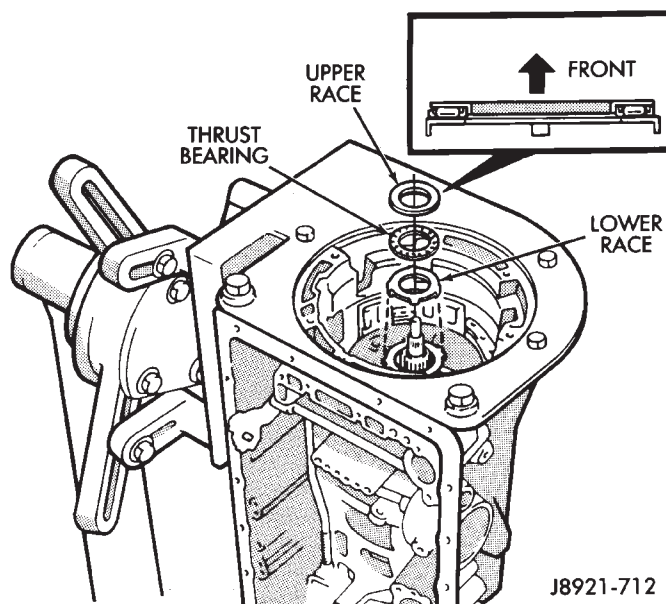

Fig. 45 Installing Overdrive Support Thrust Bearing And Races
(53) Remove dial indicator and gauge tool.
(54) Remove overdrive brake piston snap ring and remove overdrive clutch pack components.
(55) Coat overdrive lower race, thrust bearing and upper race with petroleum jelly and install them in overdrive support (Fig. 45). Be sure races and bearing are assembled and installed as shown.
(56) Verify bearing/race sizes before proceeding. Bearing-race sizes are: